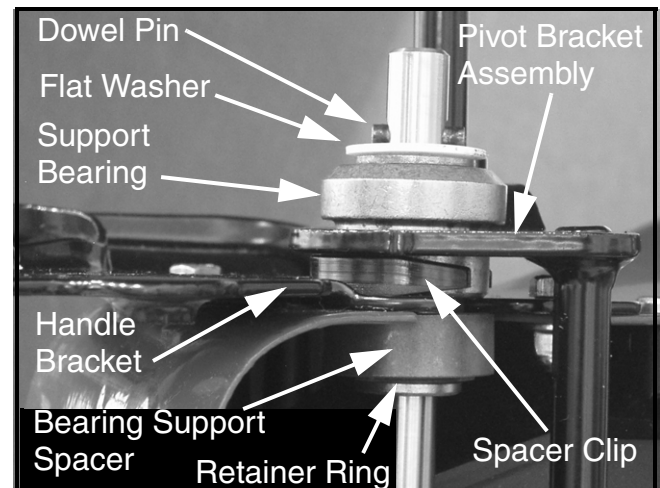

FIGURE 21
60. Install a new Transmission Support Bearing, Item 8 of 753-05865, onto the RH end of the transmission's output shaft. Install the flat washer, removed in Step 33 and install the lubricated dowel pin in the output shaft. See Figure 21.
61. Insert a new Spacer Clip, Item 5 of 753-05865, between the pivot bracket assembly and the handle bracket. See Figure 21.
62. Position the RH Bearing Support Spacer, Item 8 of 753-05865, up against the inside of the deck and fully insert a Retainer Ring, Item 4 of 753-05865, into the groove on the transmission support bearing. See Figure 21.
69. Install a new Transmission Support Bearing, Item 8 of 753-05865, onto the LH end of the transmission's output shaft. Install the flat washer, removed in Step 33 and install the lubricated dowel pin in the output shaft. Refer to Figure 21.
70. Position the LH Bearing Support Spacer, Item 8 of 753-05865, up against the inside of the deck and fully insert a Retainer Ring, Item 4 of 753-05865, into the groove on the transmission support bearing. See Figure 21.
80. Insert a new Spacer Clip, Item 5 of 753-05865, on the LH side between the pivot bracket assembly and the handle bracket. See Figure 21.
81. Using a 3/8" socket and ratchet, secure the new Bell Washer, Item 6 of 753-05865, (cupped side towards height adjuster lever) with the TapTite Screw, Item 3 of 753-05865, to the left pivot bracket assembly pivot arm as shown in Figure 21. Tighten securely.